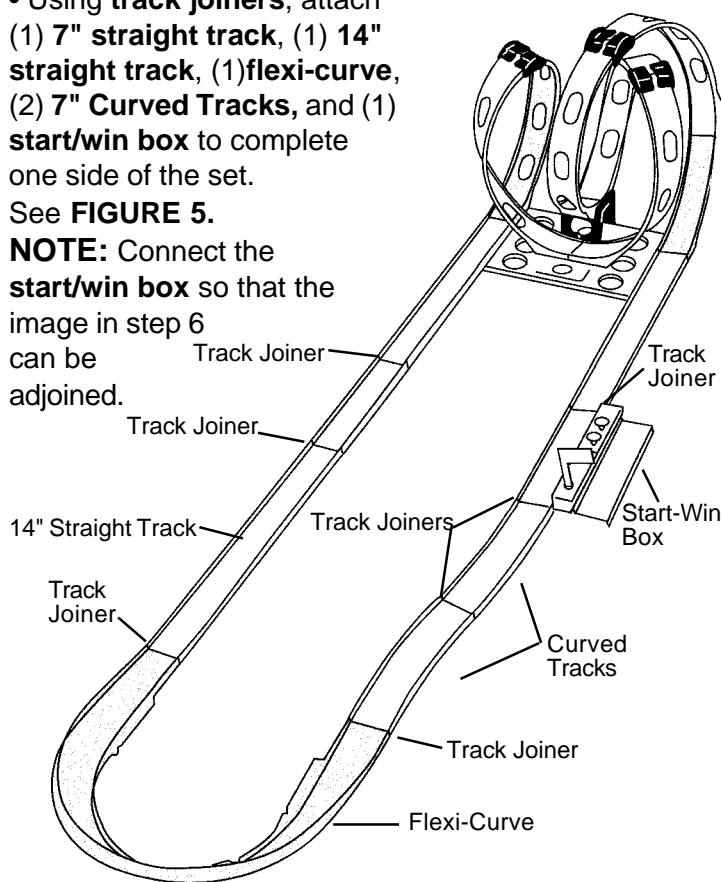

FIGURE 5
See **FIGURE 5**.
- To complete the second half of the set, create a **mirror image** of **FIGURE 5**.